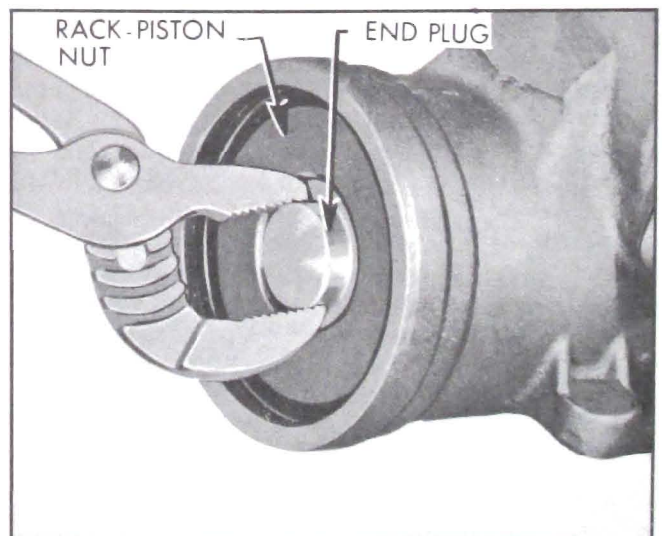

Figure 8-57—Removing Rack-Piston Nut End Plug
6. Remove rack-piston nut end plug retaining ring using No. 3 Truarc Pliers J-4245. Pull out rack-piston end plug with water pump pliers. See Figure 8-57.